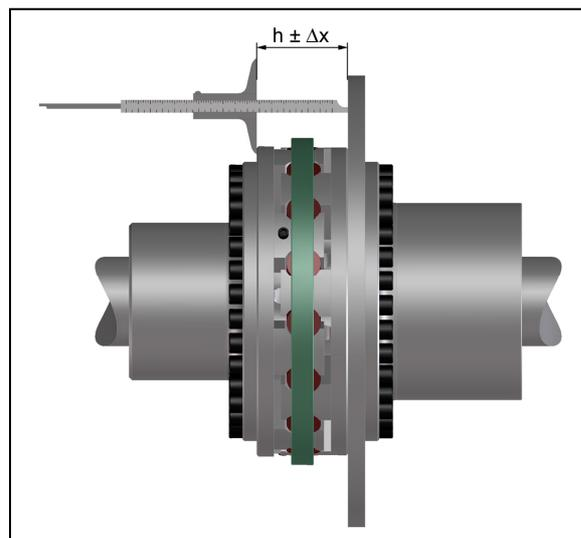

Fig. 8
- Push together the shaft ends with the mounted coupling halves while observing the mounting dimension 'h' acc. to table 6 (Fig. 8).
- Measure the axial flange distance 'h' according to fig. 8.